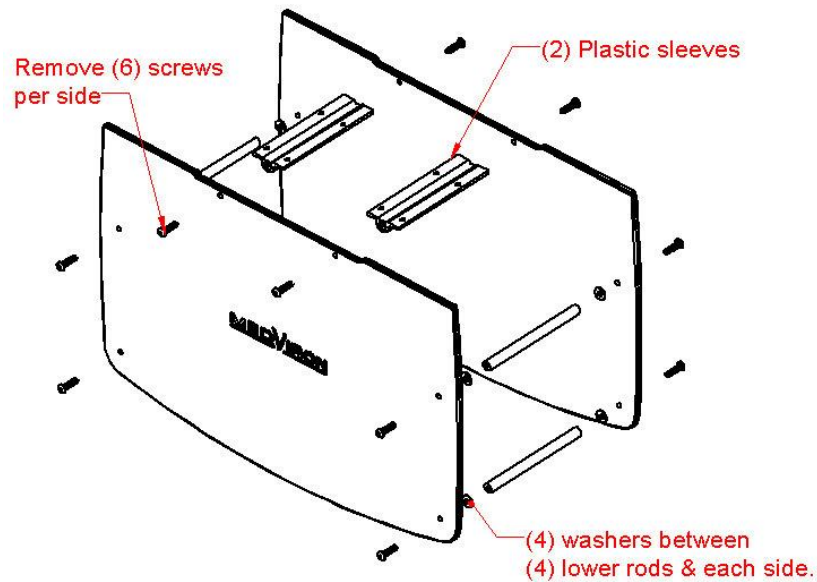

Figure 12
Remove (6) connector bolts with a 1/8" hex drive or wrench. Remove the side (Figure 12).